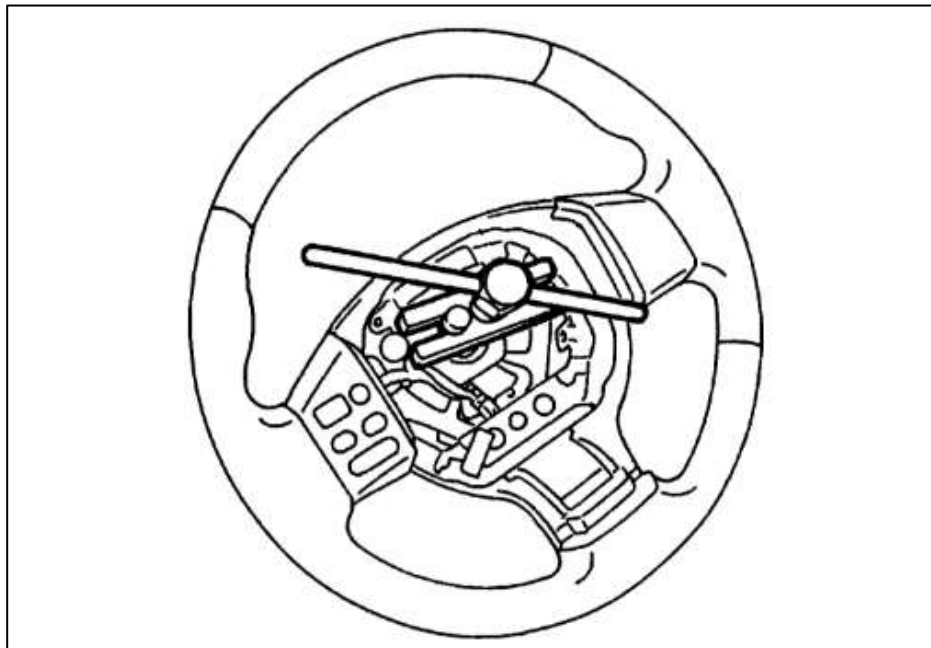

Figure 12
- f. Using a Steering Wheel Puller, remove the OE Steering Wheel. If you do not have a Steering Wheel Puller, grasp the Steering Wheel at the top and bottom, and rock the wheel back and forth to loosen it. *Figure 12.*